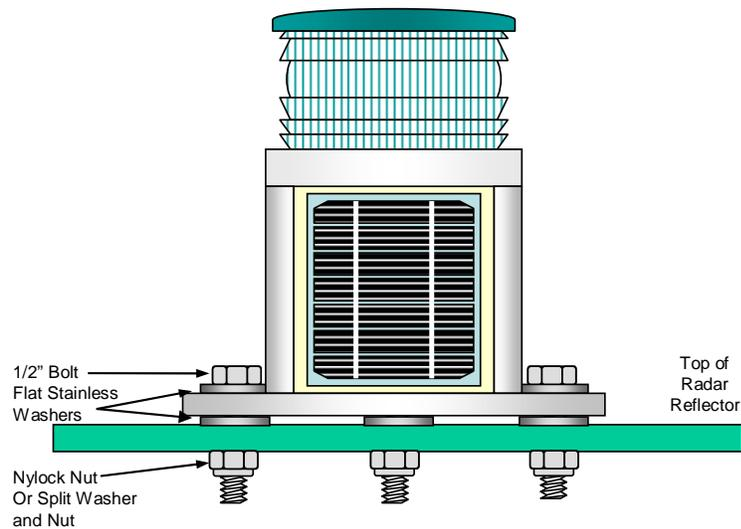

Figure 3-5
- b. On steel buoys, install three ½" stainless steel bolts and flat washers through the lantern mounting holes, three flat washers between the lantern and buoy top plate and finally three split lock washers and nuts to secure the lantern. **The lantern vents through a hole in the bottom of the lantern's base, so the lantern CAN NOT be mounted flush with the buoy's mounting plate.** The flat washers provide this air-space. Avoid tall bolts that could shadow the solar panels. Nylock nuts can replace split washers and nuts. See Figure 3-5.